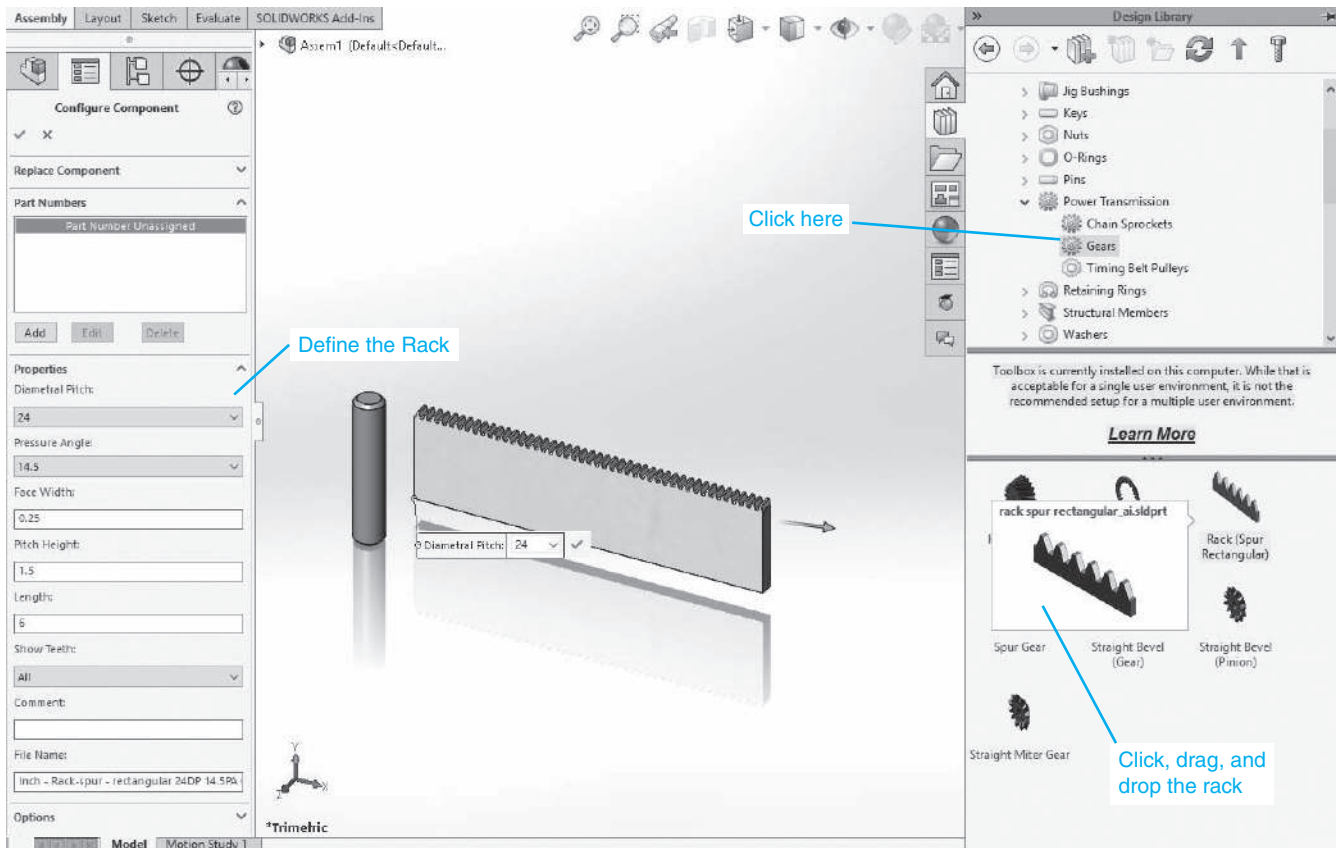

Figure 10-54
- 5** Set the rack's properties as shown in Figure 10-54.